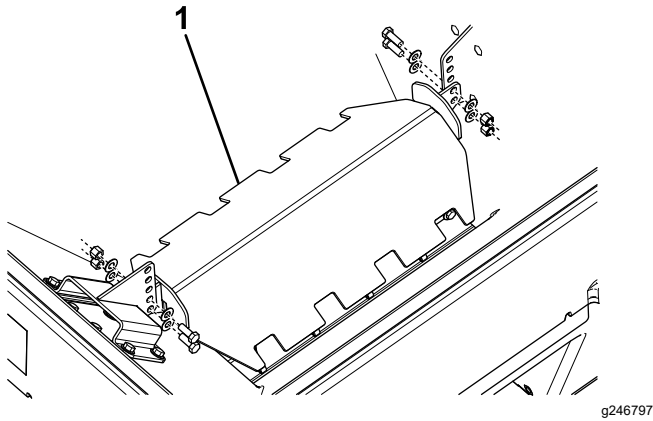

Figure 17
4. Remove the hardware securing the baffle to the inside of the spreader (Figure 17).
5. Raise or lower the baffle to the desired height and secure it with the previously removed hardware (Figure 17).